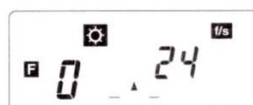

Fig. 12
2. After "1/8000" appears, the cine scale is displayed. The cine scale is based on a 180° shutter blade opening. (Fig. 12)